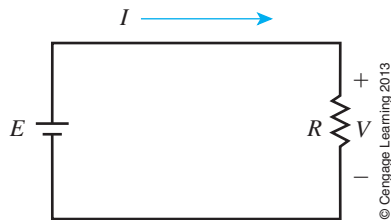

FIGURE 4-32
1. For the circuit of Figure 4-32, determine the current I for each of the following. Express your answer in the most appropriate unit: amps, milliamps, microamps, and so on.
3. For the circuit of Figure 4-32, compute V for each of the following:
9. For Figure 4-32, if $E = 30 \text{ V}$ and the conductance of the resistor is 0.2 S , what is I ? Hint: See Section 3.11, Chapter 3.
19. Figure 4-34 represents the I - V graph for the circuit of Figure 4-32. What is R ?